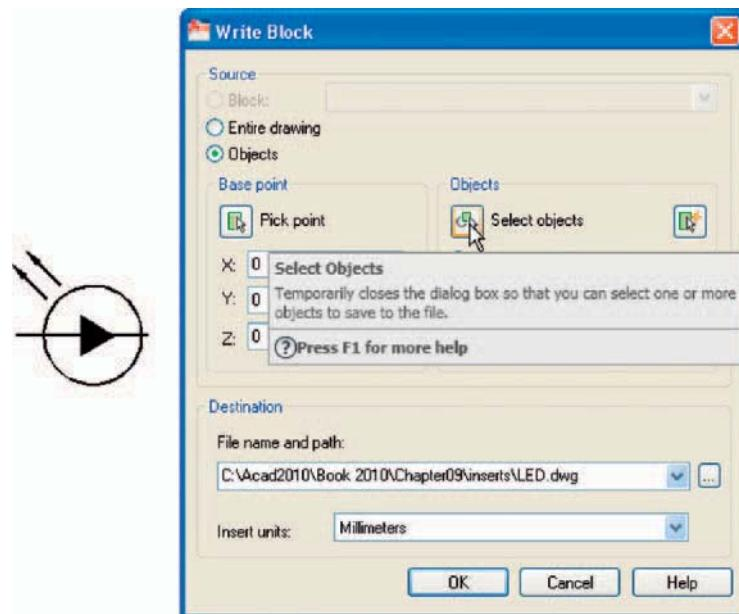

Fig. 9.19 Example – Wblock
Example – wblock (Fig. 9.19)
1. Construct a light-emitting diode (LED) symbol and *enter w* at the command line. The **Write Block** dialog appears (Fig. 9.19).